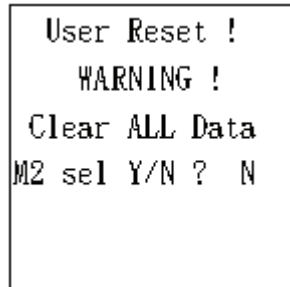

Fig 3
4. The reset screen appears as shown in Fig 3. Press M2 to select Y and press **E** to rest the device.